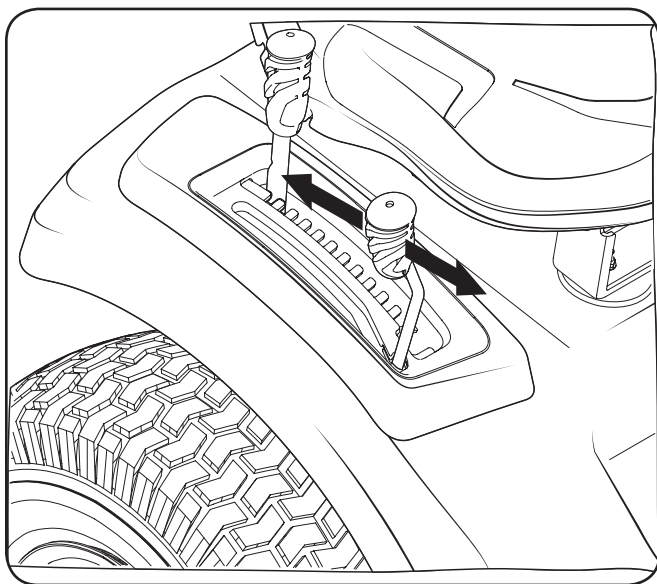

Figure 5-4 (Models with Manual PTO)
- a. Push the PTO/Blade Engage lever forward into the engaged (ON) position. See Figure 5-4.